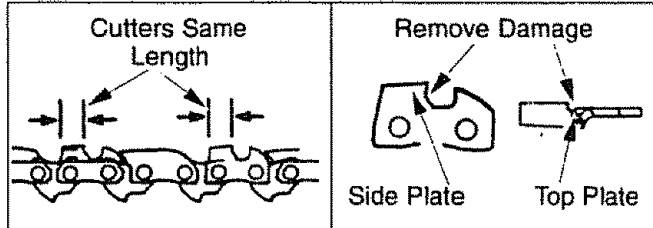

Figure 36
- Keep all cutters the same length when filing. See Figure 36.